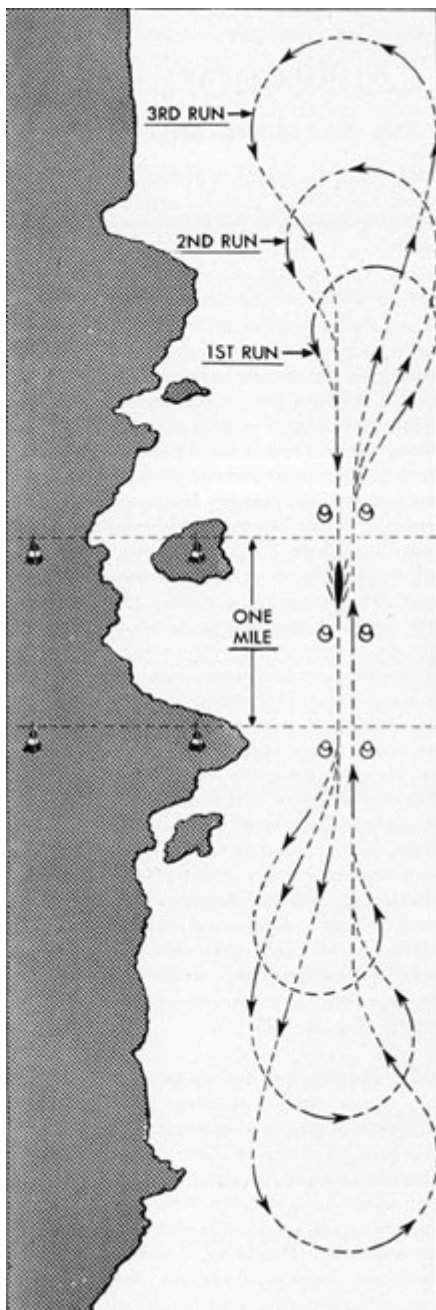

Figure 6-2. Measured mile course.
purposes since the current effect cannot be determined with the degree of accuracy required. Thus the most accurate and suitable method of checking the calibration of a log under actual operating conditions is to run the ship over a measured course 1 mile in length (Figure 6-2).
**log.** If the ship is not near a standard measured mile course, it is possible to use fixed points one mile apart as shown in Figure 6-2. If possible, a location should be chosen in which the current effect is small and having a direction parallel to the axis of the ship's course. The depth of water should be at least 20 fathoms. Shallower water will prevent the ship from